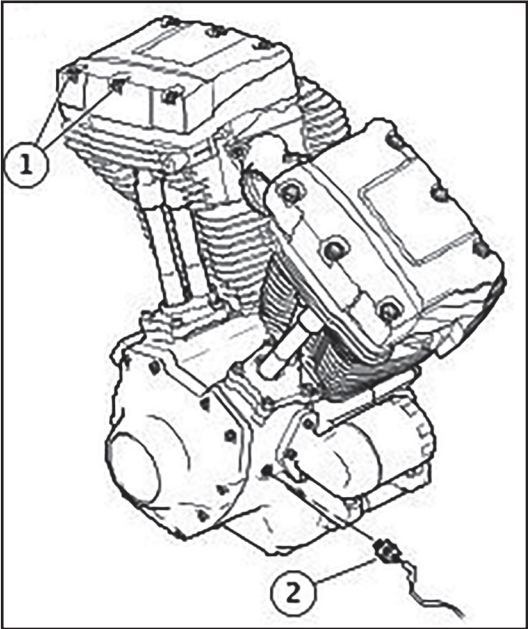

Figure 2. Gauge Mounting Location
2. See Figure 2. Remove oil pressure switch (2) from crankcase and save switch for reassembly. It may be necessary to use a 15/16 inch open end crow foot (Snap-On FC30B) to remove the oil pressure switch. Remove the two rear right hand side rocker box screws (1). Place mounting bracket of oil pressure gauge assembly over holes in rear rocker box and reinstall rocker box screws to hold assembly in place. Tighten screws to 14–19 N·m (10–14 ft-lbs).